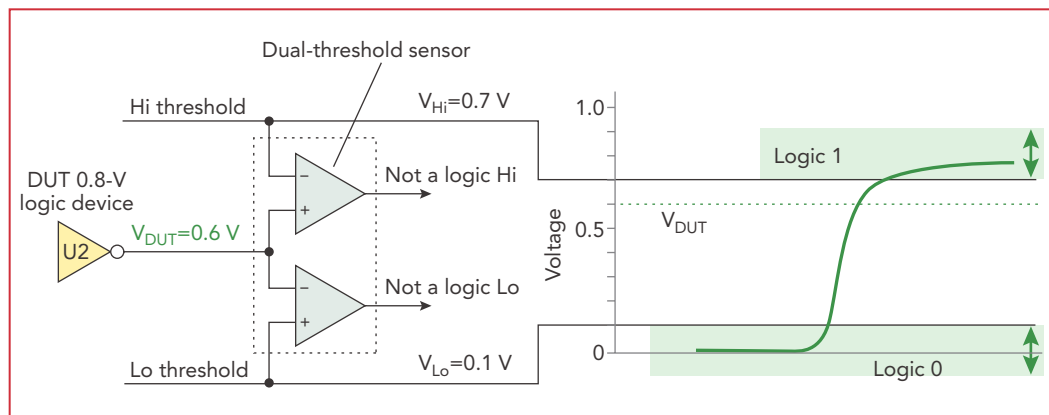

FIGURE 3. A dual-threshold sensor design identifies incorrect or marginal logic levels on a board under test.
- **Single level thresholds.** Defining only a single threshold to denote the transition from 0 to 1 ignores the fact that most devices have VOH_{MIN} and VOL_{MAX} specifications that create a gray area between the two. With a single threshold, a test cannot detect a faulty output transistor that can't drive high enough or low enough for reliable operation of the board in its target system. The board would have to proceed to functional or system test where diagnosing it would be more difficult. Dual-threshold sensors (Figure 3) don't have this ambiguity, so they can verify that the output transistors are functioning according to the manufacturer's specifications.